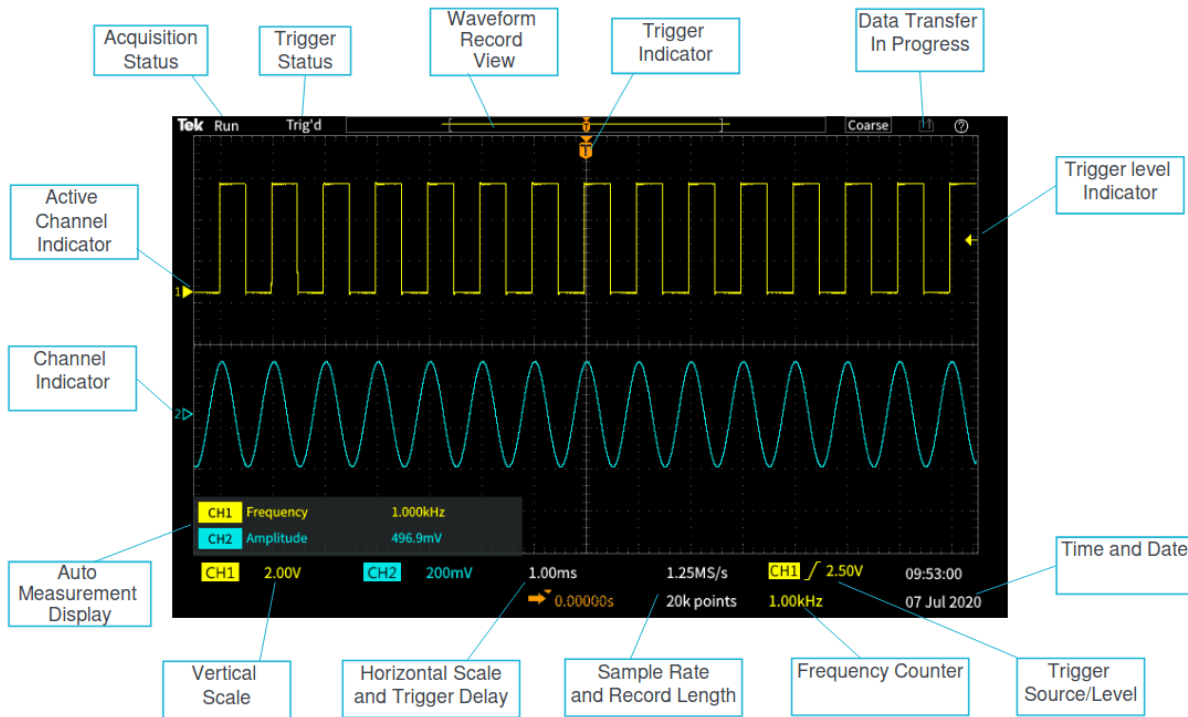

Figure 3: Information on oscilloscope display. (Figure Reference: TBS1000C Demonstration Guide, 26 JUNE 2020 - VERSION 1.0.)
1. What is the location of the ground level and the level of the signal? (You may use Figure.1a and Figure.3 for reference.)
2. Turn the volts/div (**Scale**) knob clock wise and anti-clockwise in steps. You should notice the volts/div changing at the bottom left hand corner of the screen, indicated by *Vertical Scale* in Figure.3, and numbers will change in a 1:2:5 sequence (e.g. 0.1, 0.2, 0.5, 1, 2 5 etc.). What happens when the volts/div **Scale** knob is turned? Was there a shift in the position of the ground level?
Quick Measurements (QM): This oscilloscope has built in capabilities that allow the user to take simple measurements quickly. This is introduced in this section so you can perform some more experiments with the vertical section. To use this feature, press the **Measure** key located on the front panel. This brings up a soft key menu on the right side of the screen. There, the source can be selected by pressing the soft key adjacent. The measurement type can be selected by rotating the **Multipurpose** knob and pressing on the desired measurement. The measurement choices can be removed by pressing the **Remove All Measurements** soft key. The selected measurements are displayed in *Auto Measurement Display* region as shown in Figure.3.
- A secs/div knob marked **Scale**, in the Horizontal control menu, that helps in modifying the horizontal scale, which is displayed at *Horizontal Scale and Trigger Delay* as shown in Figure.3.